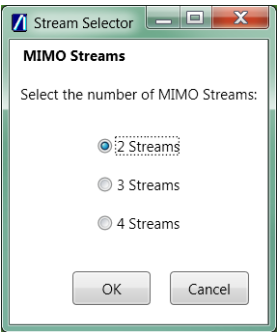

Figure 6-2. Stream Selection
- 3. When the **MIMO Streams** dialog appears, select the **2 Streams** option - Figure 6-2.